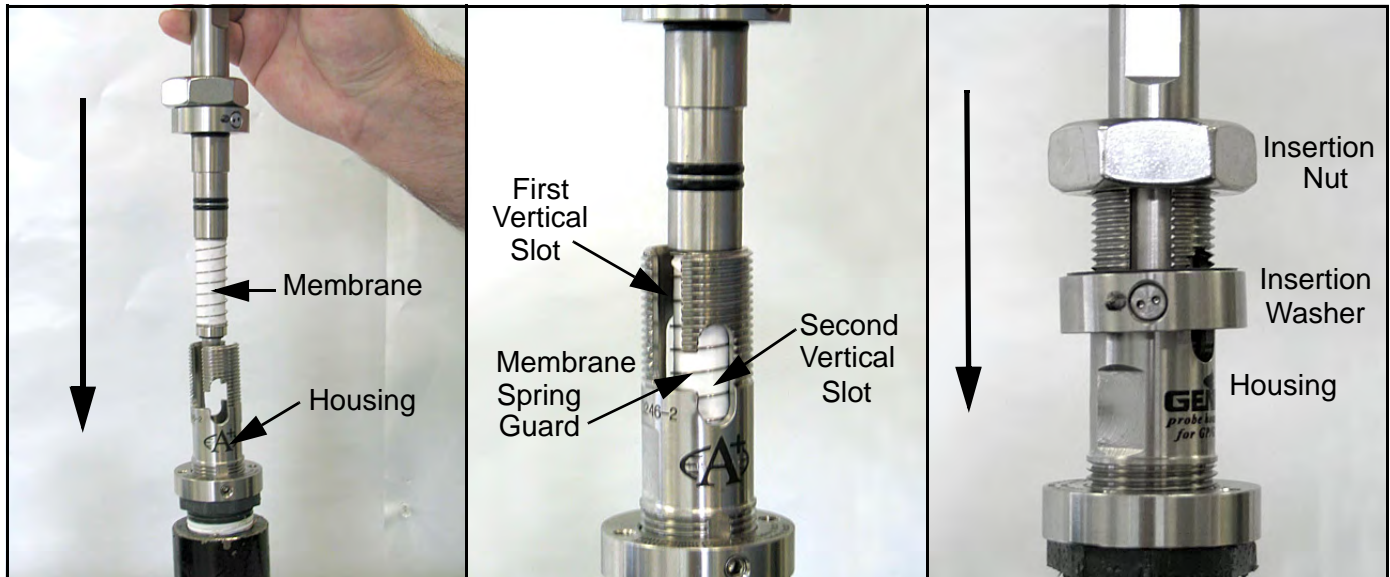

Figure 18: Installing the Probe
- Refer to *Figure 18* below and position the membrane end of the probe above the installed housing. Slowly lower the probe into the housing. Avoid membrane contact with the upper section of the housing. **DO NOT APPLY DOWNWARD FORCE.** The probe should slide easily into the housing. Lower the probe only enough to thread the insertion nut one complete turn of thread engagement.